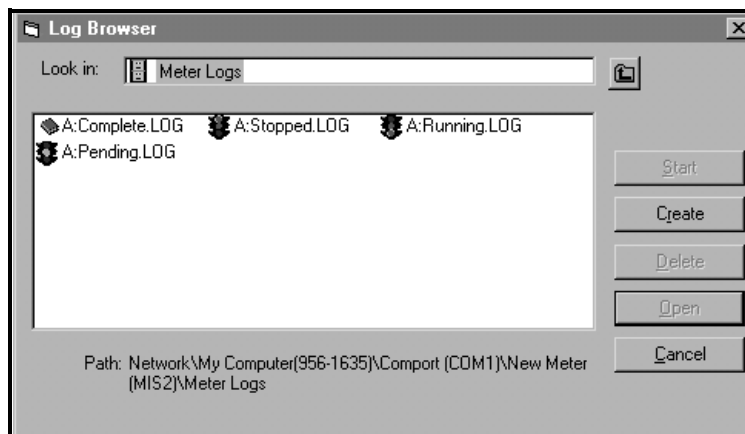

Figure 25: Log Browser Window
3. Double-click on *PC Logs* to access the stored PC logs, or on the *communication port* name and the *meter* name to access the stored meter logs. In either case, the *Log Browser* appears similar to Figure 25.